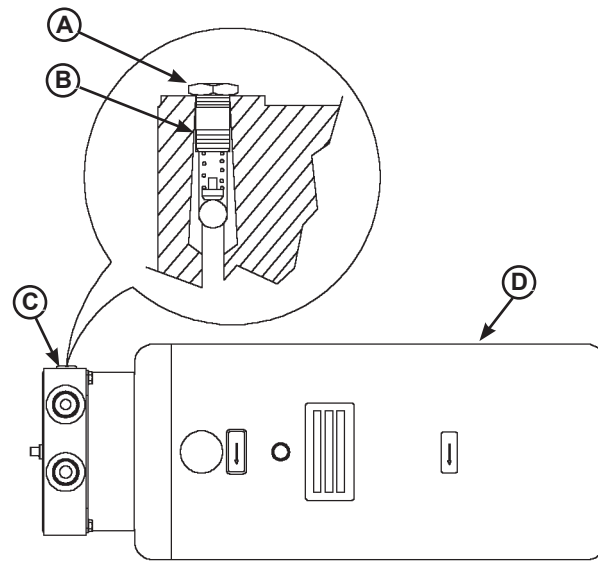

Figure 25
4. Remove SAE plug (A). See Figure 25.
5. Adjust hex adjusting screw (B) as follows: